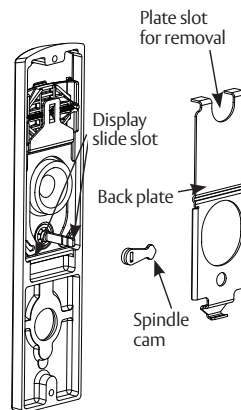

Figure 4
1. Remove indicator back plate by pulling out from top slot, then remove spindle cam from assembly. (Figure 4)
3. Slide spindle cam post into the correct slot of the display slide. (Figure 4)